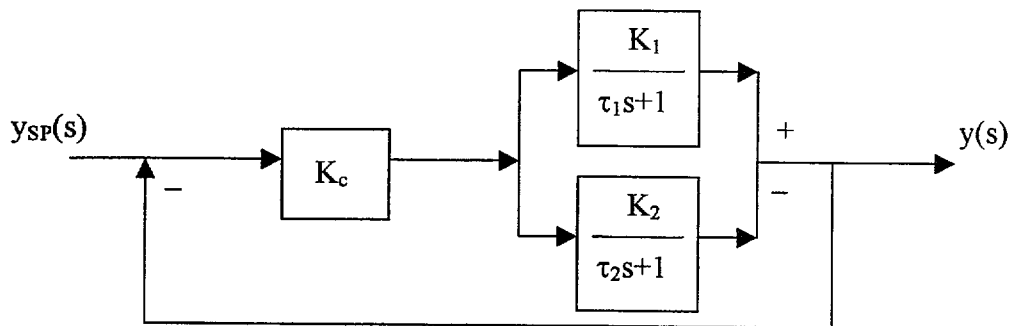

Figure 2. Two first order systems.
- e) Consider the process given in Figure 2 of two first order systems combined. Sketch the open loop response of the overall process when: